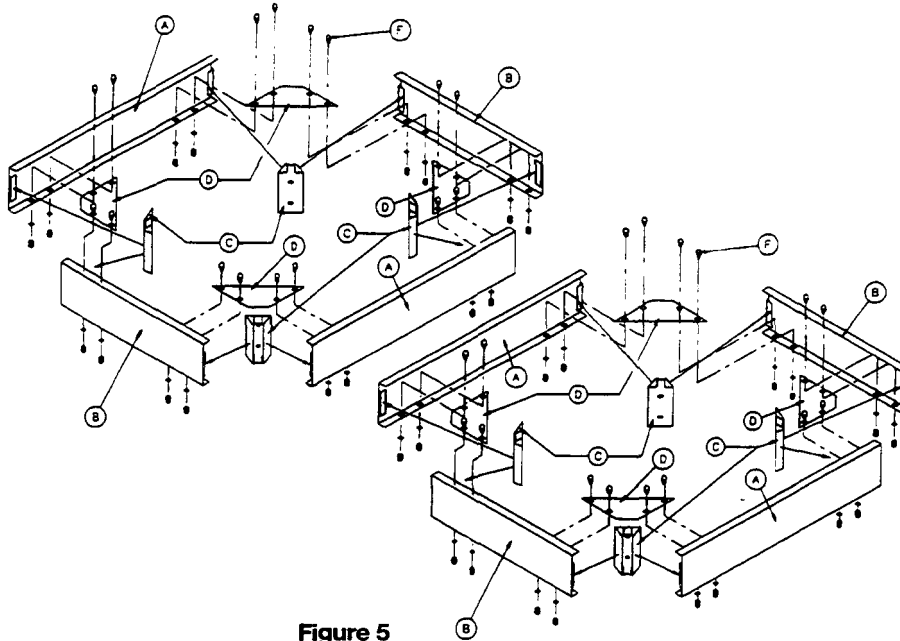

Figure 5
1. Remove from carton four (4) Item "A" bottom brace left and right side, and four (4) item "B" bottom brace front and rear, and position as shown in Figure 5. Position one (1) item "D" corner brace into each corner matching prepunched holes on the bottom inside flange of bottom braces.